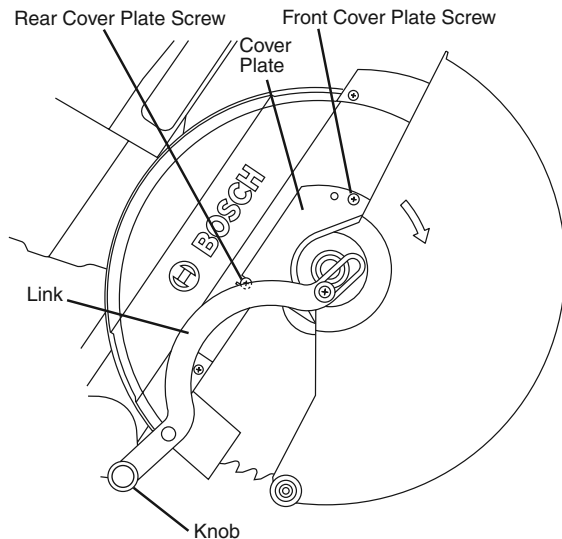
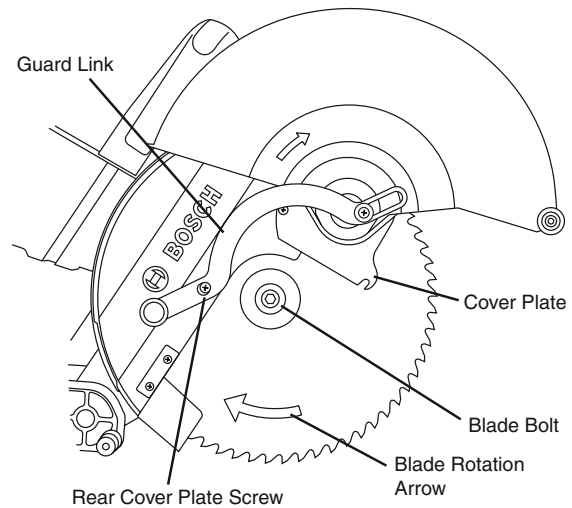

Figure 3
Figure 4
1. Position the saw in the UP position and at 0° bevel. If in the DOWN position, press down slightly on the saw head assembly and pull out the head assembly lock pin (item 43, page 9); then allow the saw head to come up (see Figure 3).
2. Unscrew the link knob (item 28, page 9) by hand from the pivot post and allow the link assembly to hang. The link knob will stay on the link.
5. Slide the cover plate down and out from the rear screw. Rotate the cover plate and lower guard counterclockwise around the front screw. While holding the lower guard up against the upper guard, move the link so its round hole can go over the rear screw – let go and the lower guard assembly will be held out of the way (see Figure 4).
2. Carefully handle the new blade. Check that the rotation arrow on the blade matches the rotation arrow on the lower guard. Slide the blade up and between the sides of the chip deflector and over the arbor shaft. Move the blade so its arbor hole goes around the support ring of the inner washer (see Figures 4 and 5).